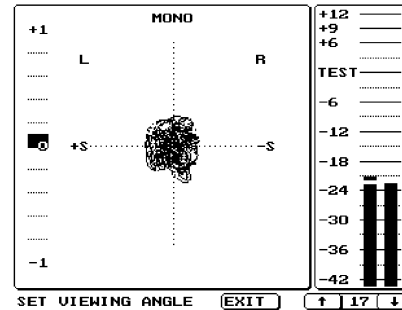

Figure 4-6. Set Viewing Angle Menu
- 2 Press and hold **[UTIL]** key (middle key) while powering up the unit. The Set Up Utility menu is displayed with **[CAL]** and **[DEFAULT]** options as shown in Figure 4-6.